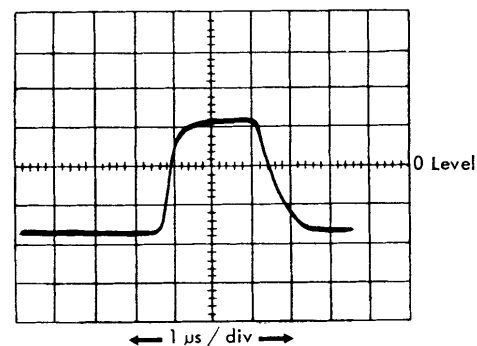

Figure 5. Process Unit Clock  $\phi A$  (1Xa)  $2.25 +.25, -0 \mu s$
$\phi A$  pluggable unit 1Y2 (1.01.01) (Figure 5)
7. Observe  $\phi A$  at 1Xa (1.01.01) and adjust 1Y2 (1.01.01) for a pulse length of  $2.25 \mu s$  (+.25, -0) at the zero volt level (See Figure 5). The pulse length is adjusted by inserting the single shot adjusting tool (#2108031) through the base of the adjustable inductance tank unit (CU302) and turning clockwise to increase the pulse length and counterclockwise to decrease.